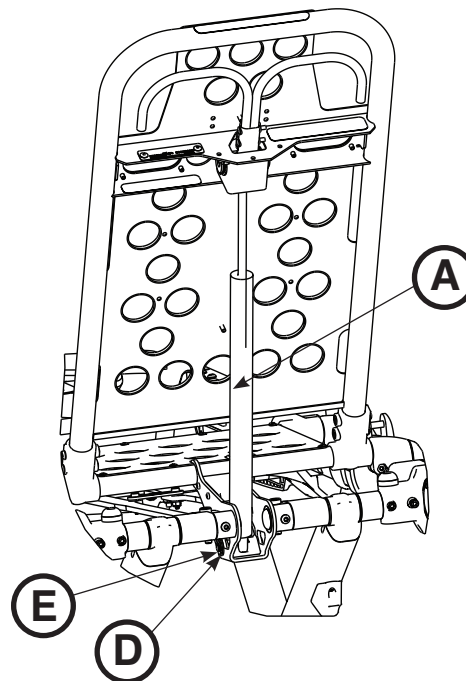
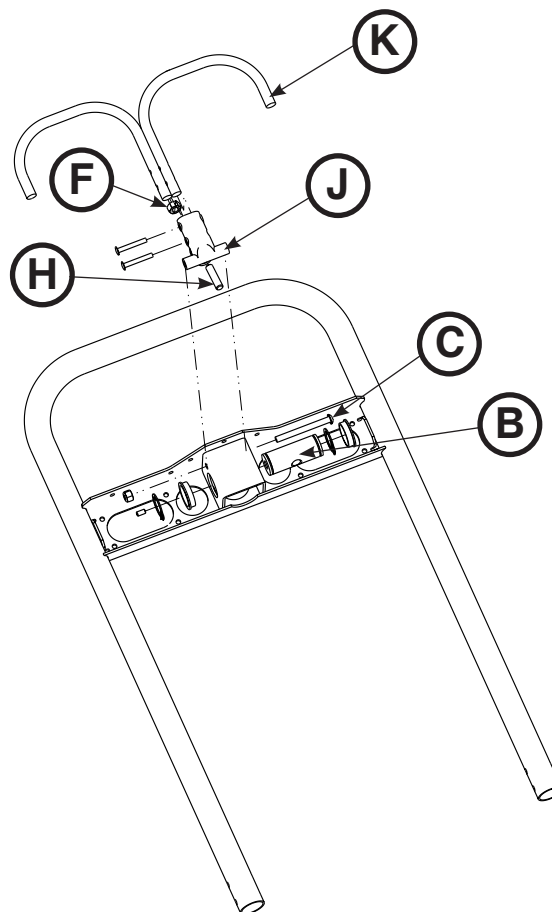

Figure 83
Figure 84
Note: Before continuing with the backrest adjustment procedure, be sure that the cylinder (A) is completely threaded into the yoke (B) so no threads are showing on the shaft of the cylinder. If threads are showing, use a 3/32" hex wrench to remove the set screw (C) in the center of the yoke. Using a small slotted screwdriver, remove the E-clip and pin (D & E) that holds the bottom of the pneumatic cylinder. Thread the cylinder shaft (A) completely into the yoke (B). Replace the E-clip and pin (D & E) and replace the set screw (C) using Loctite®. (Figure 83 and Figure 84)
2. Using a 1/2" combination wrench, loosen the hex nut (F) on the backrest pivot (J) while holding the set screw (H) fixed in the pivot (Figure 84).
3. Using a 5/32" hex wrench, turn the set screw (H) until there is no play between the backrest release handle (K) and the pneumatic cylinder release button (Figure 84).
5. Using the 1/2" combination wrench, tighten the hex nut (F) while holding the set screw fixed in the pivot (Figure 84).